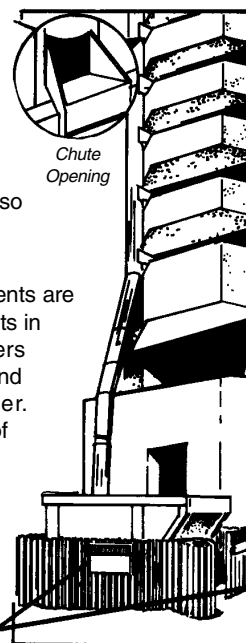

Figure 10
- Do not permit rubbish to fall freely from any level of the project. Lower it by means of a chute or other approved devices (Figure 10).